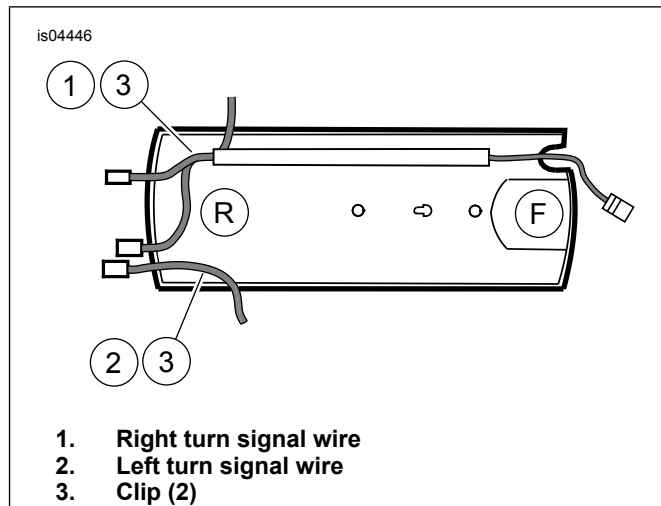

Figure 3. Turn Signal Wires and Clip (Bottom View)
5. See Figure 3. Remove turn signal wiring (1, 2) from clips (3) under rear of fender and pull wires out.